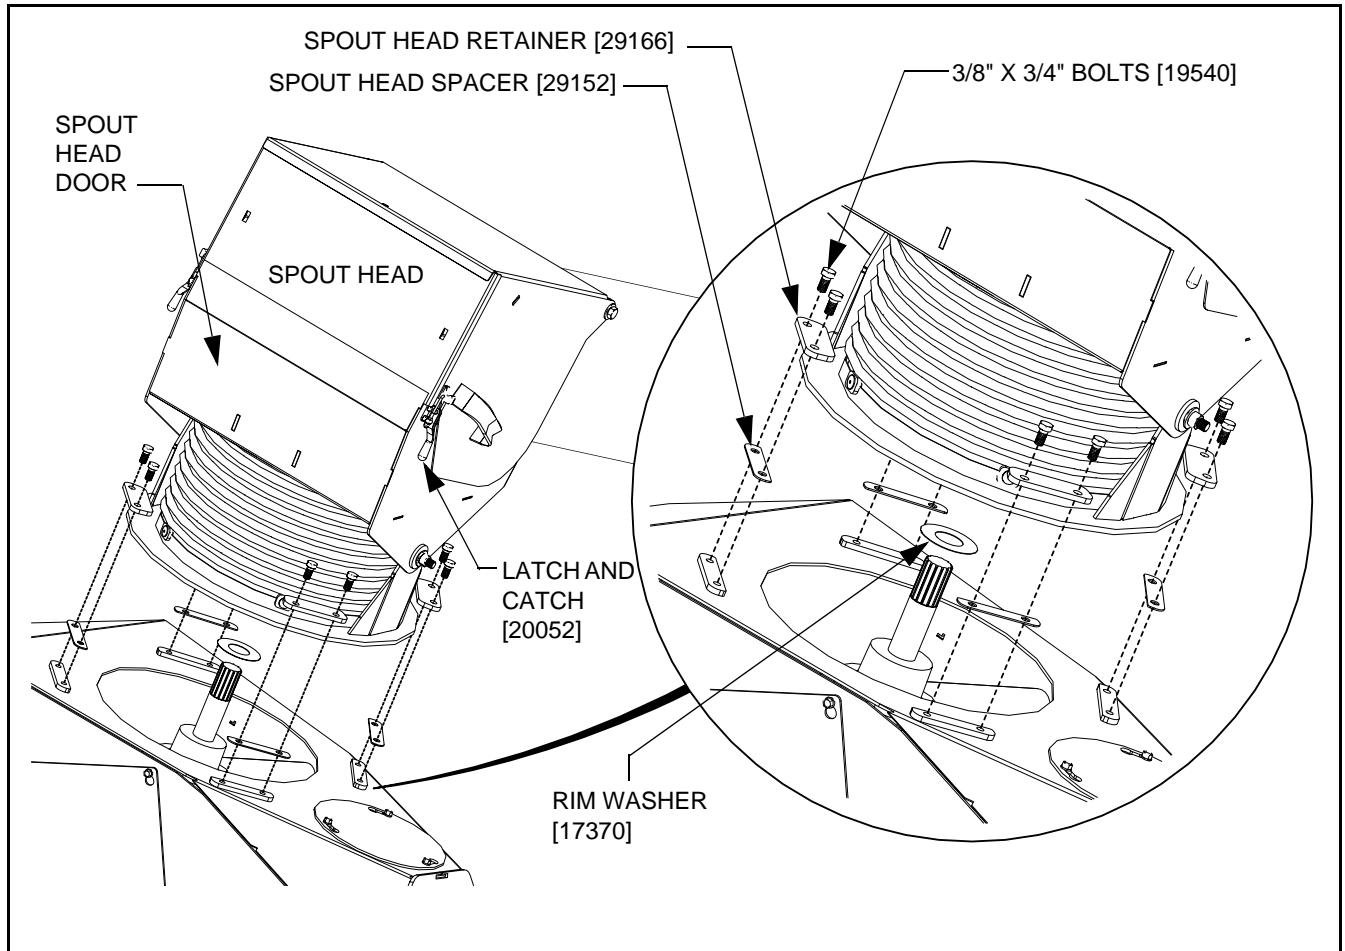

Figure 4
8. To connect the intake hopper to the auger boot, the spout head door must be first opened (see Figure 4). To do so, open the latch and rotate the spout door open, so that it lies down on the top of the swing tube.
13. Install spout head spacers, followed by spout-head retainers, using eight 3/8" x 3/4" bolts (see Figure 4).